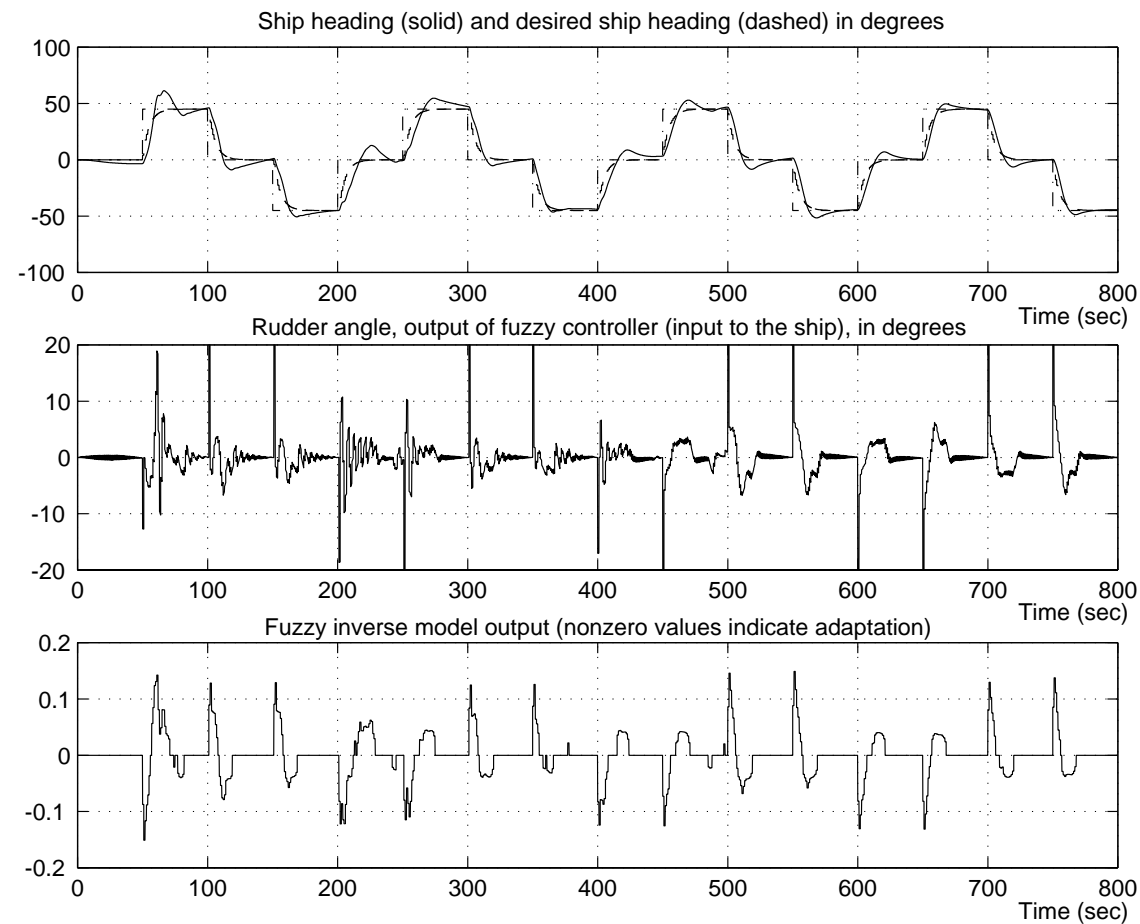

Figure 12: FMRLC response, rule-base synthesis/tuning for tanker (ship weight change and wind disturbance).
- To see that it can re-tune the controller for plant changes (“ballast to “full”) and a wind disturbance see Figure 12 (compare to direct fuzzy controller)